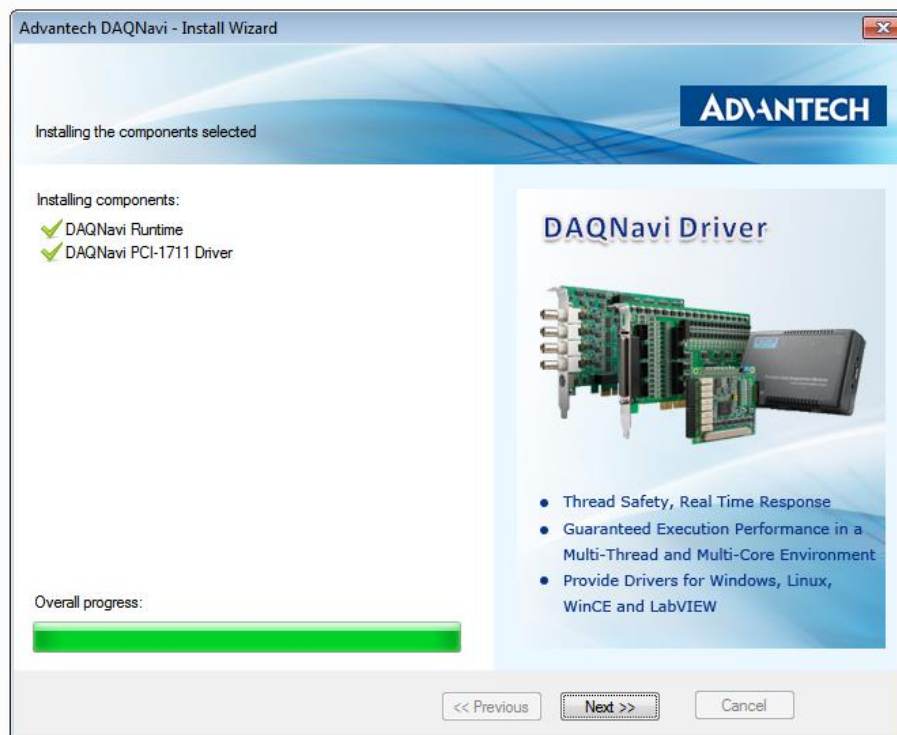

Figure 7 Program Folder Selection Window
6. Press 'Install' and the installation will continue (Figure 7).